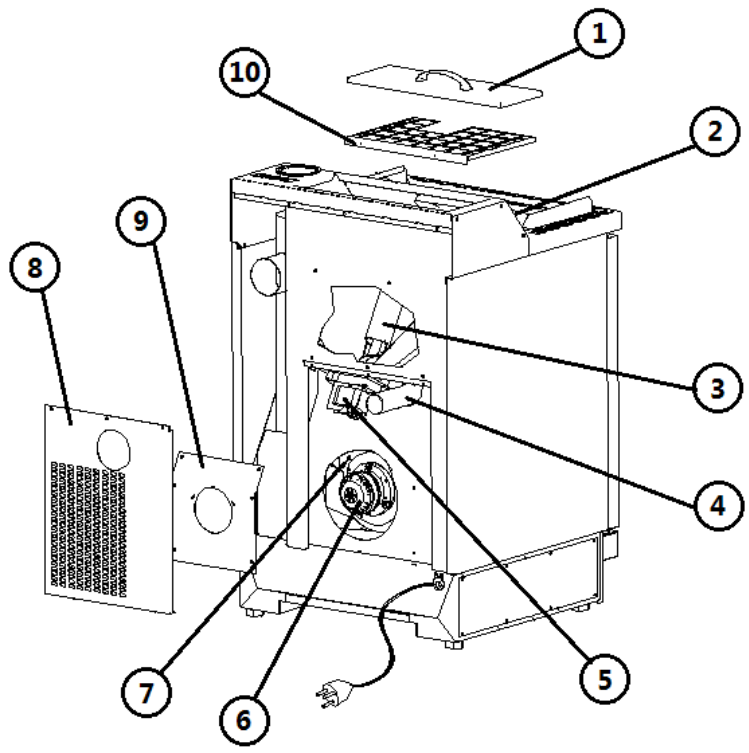

Fig. 36 - Rear view
LEGEND	Fig. 36 page 34
- Loosen the 3 screws on the inspection panel + the 6 screws on the extractor cover (see **Fig. 36 page 34**) .